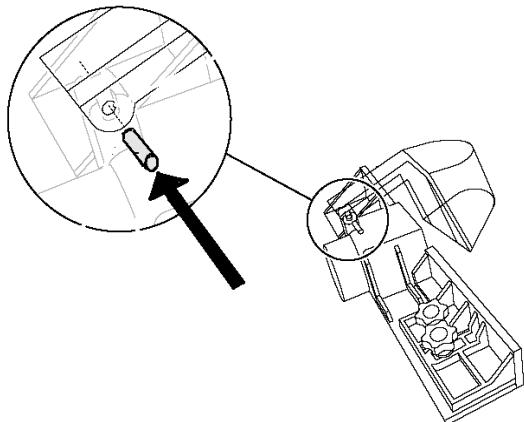

**Fig 6**
**Attach the Fence Boards and Dust Port (Fig 6):**